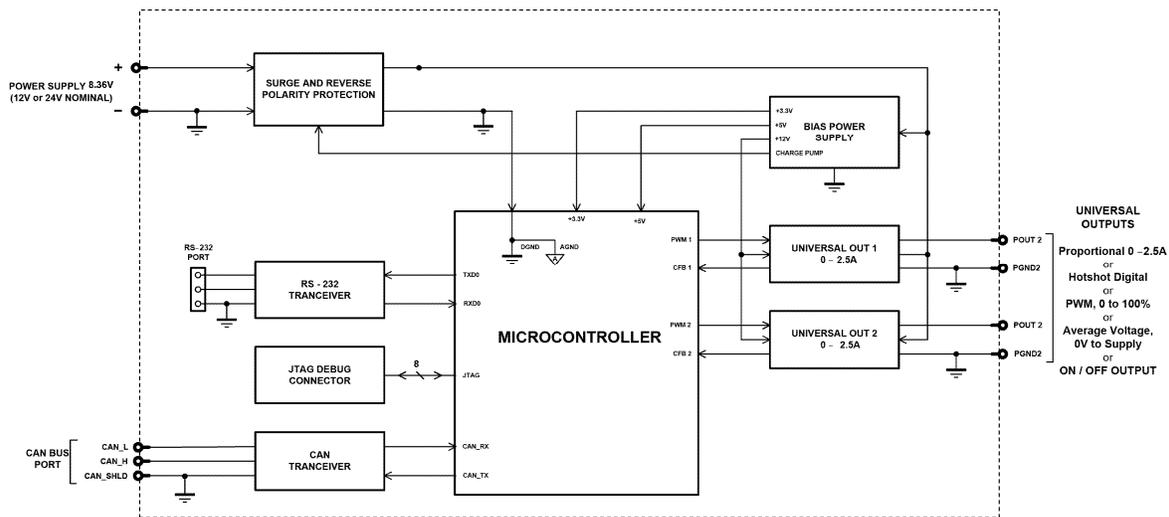
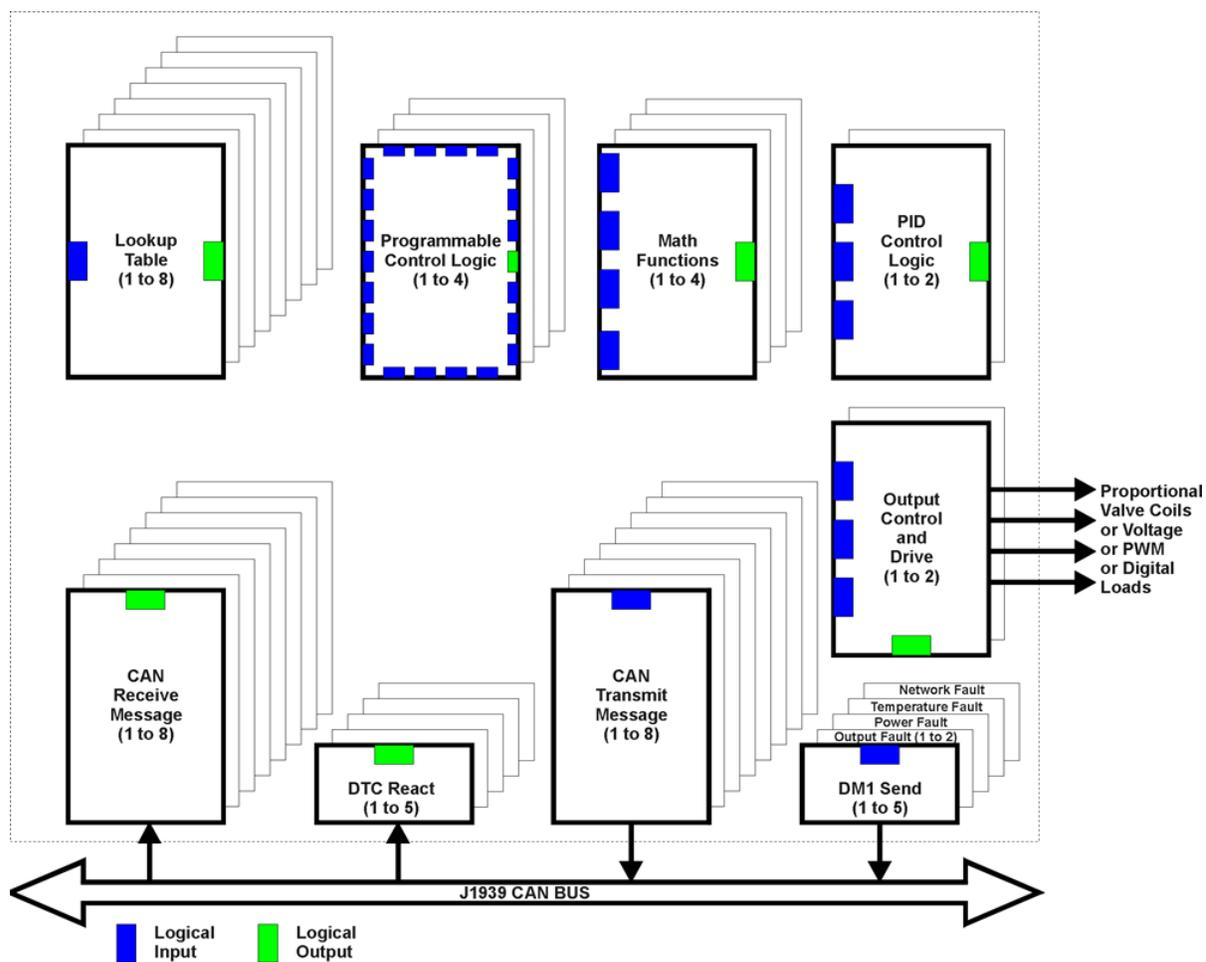

Figure 1A – Hardware Functional Block Diagram
Figure 1B – Software
**Description:** The CAN to Dual Output Valve Controller is a highly programmable controller, allowing the user to configure it for their application. It must be integrated into a CAN J1939 network of controllers. Its sophisticated control algorithms allow for open or closed loop drive of the proportional outputs. All logical function blocks on the unit are inherently independent from one another, but can be programmed to interact in a large number of ways. While Figure 1A shows the hardware features, Figure 1B shows the logical function blocks (software) available on the CAN-2O. All setpoints are user configurable using the Electronic Assistant.